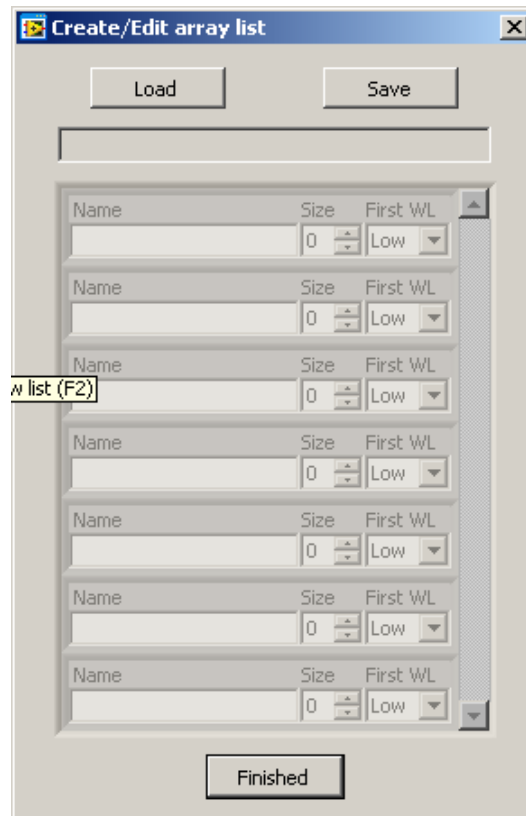

Figure 2.14.2: Array list editor
- i. In the first Name input field (Figure 2.14.2), type in the name of the *.xml file (just the core filename, not the extension) as saved previously in step 9 in section 2.12